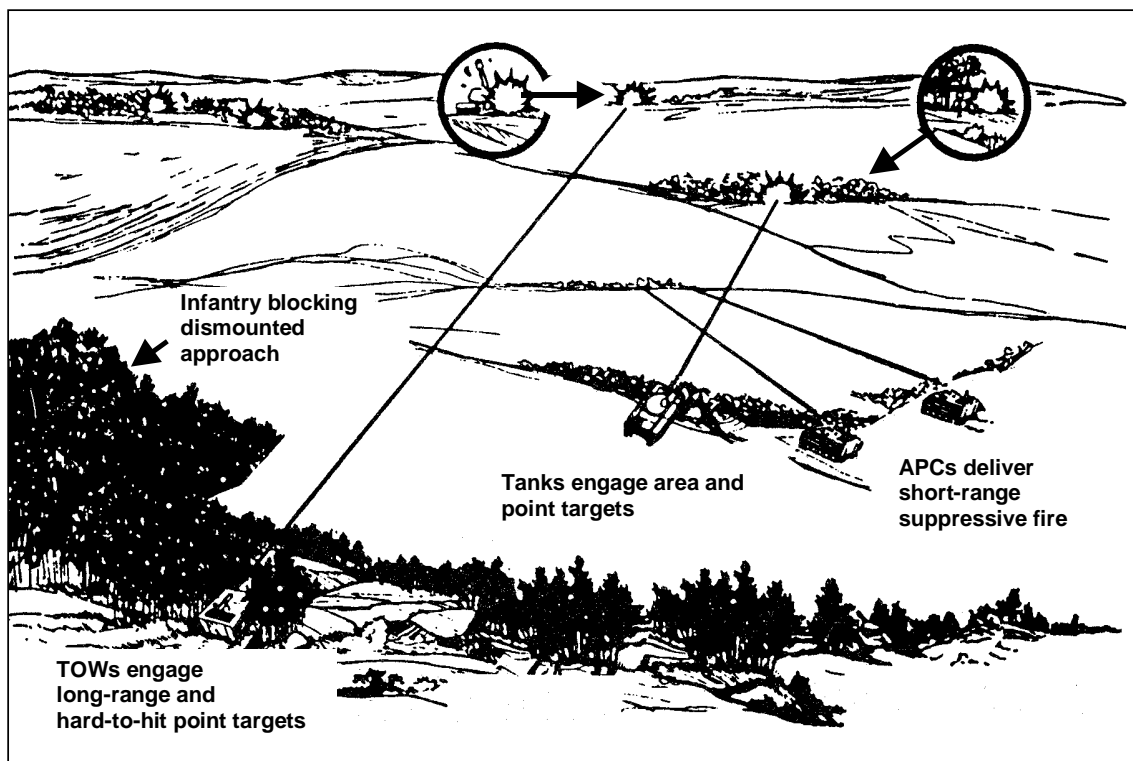

Figure 2. Integrate TOWs with nearby infantry.
- f. Integrate TOWs with nearby infantry for security. TOW crews by themselves are vulnerable to attacks by mounted and dismounted infantry. To provide security against such attacks, position TOWs to take advantage of the infantry, who will block dismounted and concealed mounted approaches leading to TOW positions (Figure 2).